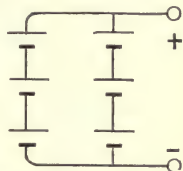

FIG. 255. — Six cells, three in series, and two in multiple.
10. Six cells are arranged 3 in series and 2 in multiple (Fig. 255) to send a current through an external resistance of 4 ohms. If each cell has an e.m.f. of 1.5 volts and a resistance of 0.5 ohms, how intense will the current be?